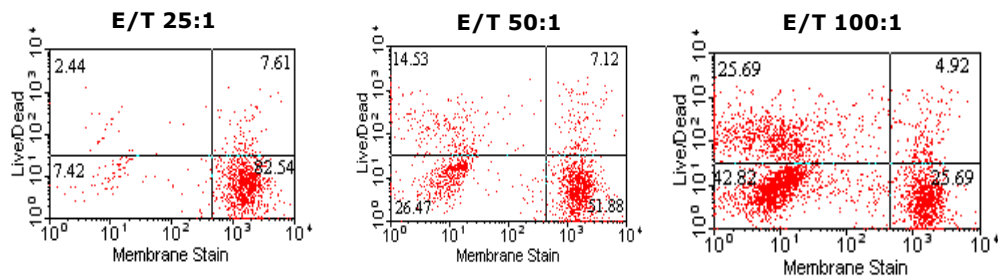

Figure 1
Optimization of the cytolytic assay needs to be determined by individual researchers. For example to test natural killer ability of swine $\gamma\delta$ lymphocytes (12,13), K562 cells were stained with CFSE analog and adjusted to a final concentration of 1×10^4 cells/100 ul in RPMI containing 10 % FBS. $\gamma\delta$ lymphocytes were added at: effector (E)/ target (T) ratios of 25:1, 50:1, and 100:1 and adjusted to a total volume of 400 ul RPMI, then incubated for 4 hours at 37° C in a sterile capped facs tube. Following incubation 7AAD (live/dead) stain was added directly to each tube, incubated for 15 min on ice and analyzed via flow cytometry as shown in **Figure 1**.
Following analysis, data can be imported into dot plots to calculate percentages of cells separated into various quadrants. % Cytotoxicity can be determined by an increase of target cells (lower right quadrant) moving into upper right quadrant and calculated by $(R1/(R1+R2))*100$ (Fig 1). Target cells only (E/T ratio 0:1 or uninfected target cells (for intracellular pathogen infected targets) should be used to measure spontaneous cell death. Spontaneous death can be calculated and subtracted as background control. By graphing results it can be determined if the assay parameters are setup properly Fig 2. As demonstrated in the graph, a linear increase indicates the assay is optimized and an E/T ratio will be optimal for the experiments **Figure 2**.